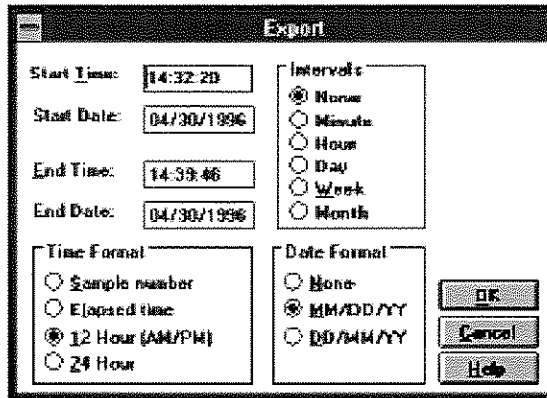

Figure 3-33 Export Dialog Box
3. The export dialog box appears (see Figure 3-33). This box allows the user to select the start and end times, the format for the time and date, and optionally break up into smaller files based on a time interval.